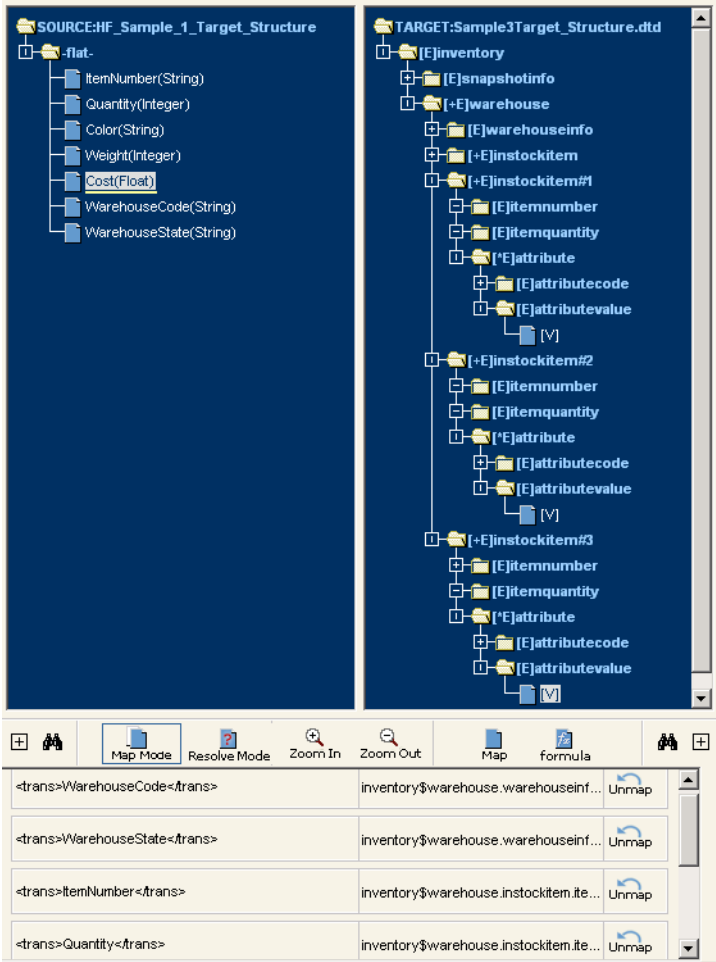

Figure 24-5. You should now have Color , Weight and Cost all mapped to the instockitem#1, 2, and 3 target data elements.
- ❶ Select `Color` in the **Source** pane.
- ❷ Toggle open `instockitem#1`, then open the `attribute` folder, and finally select the `attributevalue` folder's value data element (`[V]`).
- ❸ Click the **Map** button to map this relationship.
- ❹ Repeat these steps for the source `Weight` and `Cost` data elements, mapping them to the `instockitem#2`'s and `instockitem#3`'s respective `attributevalues [V]`. Compare your work to Figure 24-5 below.